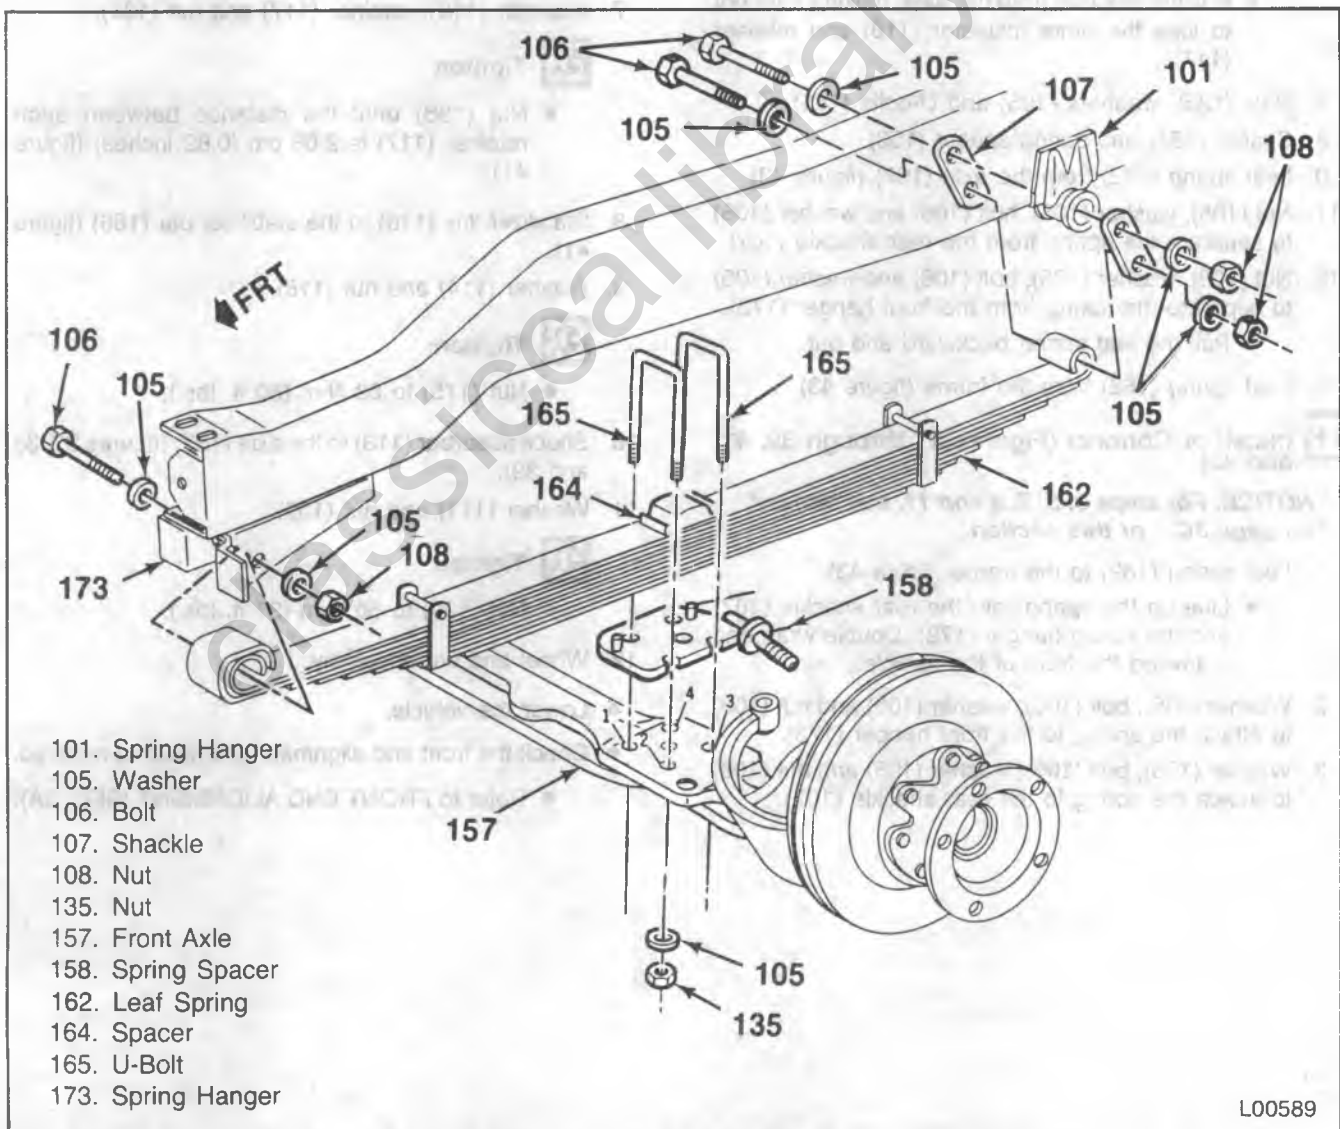

Figure 43 — Axle and Leaf Spring Attachment Points
- Pull the link free from the axle, making sure not to lose the other insulator (118) and retainer (117).
9. Nuts (135), washers (105) and U-bolts (165).
10. Spacer (164) and spring spacer (158).
11. Leaf spring (162) from the axle (175) (figure 43).
8. Nuts (135), washers (105) and U-bolts (165).
9. Spacer (164) and spring spacer (158).
10. Leaf spring (162) from the axle (157) (figure 43).
11. Nut (108), washer (105), bolt (106) and washer (105) to separate the spring from the rear shackle (107).
12. Nut (108), washer (105), bolt (106) and washer (105) to separate the spring from the front hanger (173).
13. Leaf spring (162) from the frame (figure 43).
1. Leaf spring (162) to the frame (figure 43).
- Line up the spring with the rear shackle (107) and the spring hanger (173). Double wrap end is toward the front of the vehicle.
2. Washer (105), bolt (106), washer (105) and nut (108) to attach the spring to the front hanger (173).
3. Washer (105), bolt (106), washer (105) and nut (108) to attach the spring to the rear shackle (107).
- Nut (108) to 125 N·m (92 ft. lbs.).
4. Leaf spring (162) to the axle (157) (figure 43).
- Position the spring spacer (158) onto the axle. Either aligning pin can contact the edge of the leaf spring after the assembly is complete.
5. Spacer (164), U-bolts (165), washers (105) and nuts (135).